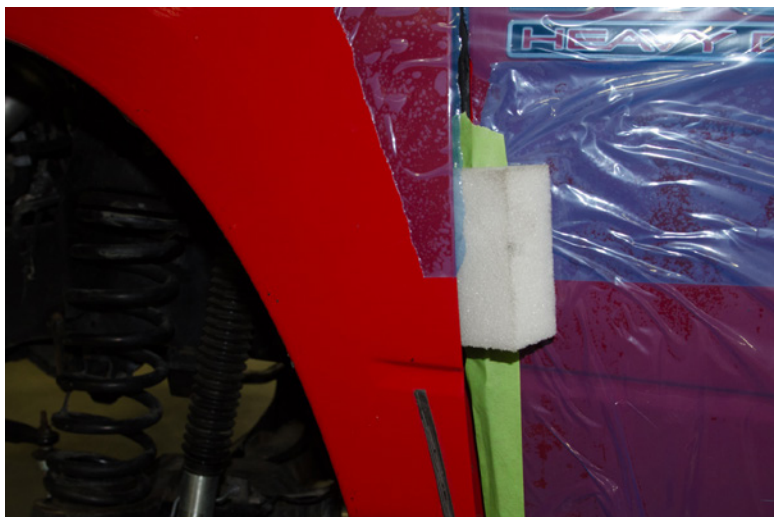

Figure 11
- B. Pull fender away from body and place something between the fender and door to hold the fender away from the body (fig. 11).